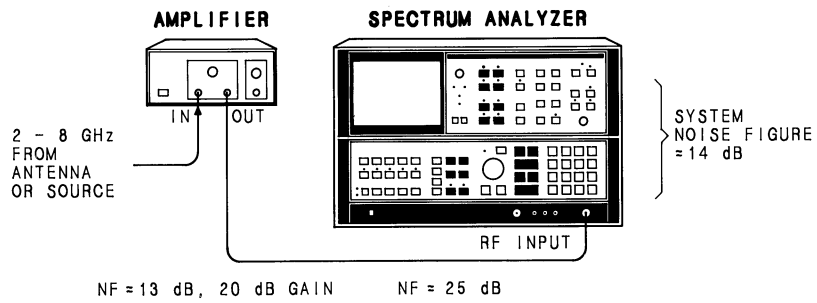

Figure 3-2. HP 11975A Used as Preamplifier for Improved System Sensitivity and Noise Figure
- **Low Noise Pre-Amplifier:** In the unlevelled mode, the HP 11975A can be used as an amplifier to increase the signal drive level to frequency counters and other equipment to reduce the noise figure of broad-band receivers and spectrum analyzers (Figure 3-2).